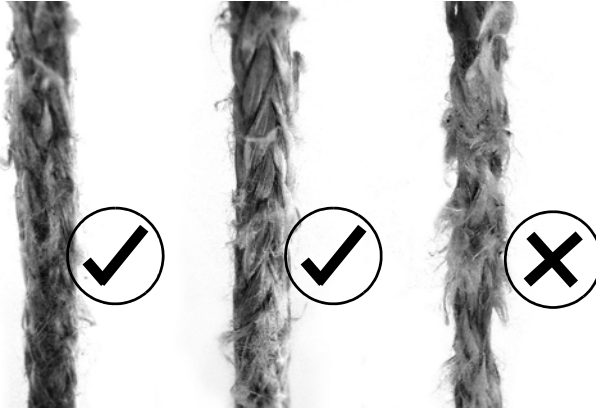
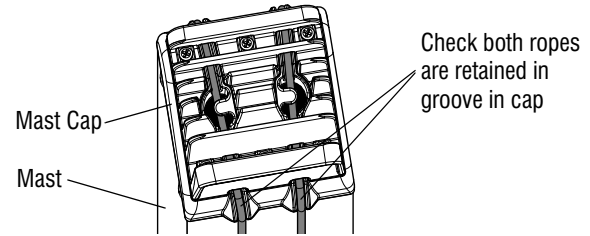
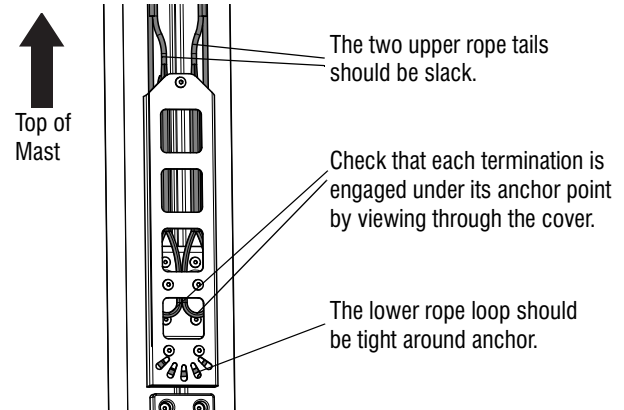

Figure 2-4. Examples of new, acceptable and unacceptable ropes
Figure 2-5. Ropes retained in mast cap
Figure 2-6. Rope anchor points
7. **Rope Assembly** - Check rope is not frayed or damaged (Figure 2-4.). Ensure it is tensioned tightly and seated properly around take-up drum (view via carriage inspection window - see Figure 6-3.). Ensure it is seated correctly over mast-cap (Figure 2-5.) and at anchor point at back of mast (Figure 2-6.). Indications that rope needs replacement include:
1. Frayed or fluffy rope (Figure 2-4.)